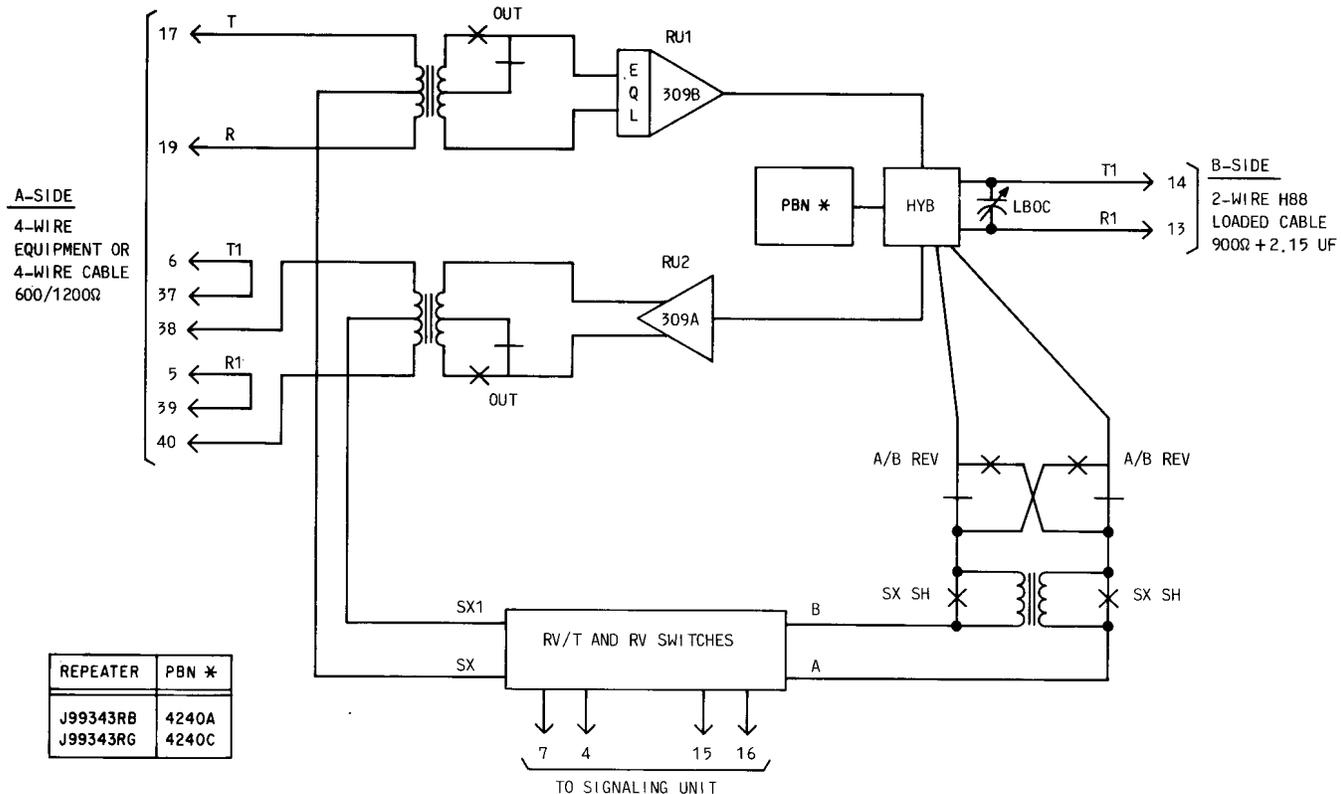

Fig. 1—Block Diagram of the 4-2 Intermediate/Terminal Repeater (L), J99343RB(MD), RG
2.01 The J99343RB, RC, and RG (terminal/intermediate) and the J99343RD, RE, and RH (terminal) repeaters utilize 309-type amplifier units for gain, or gain and equalization treatment. Block diagrams of the J99343RB/RG, RC, RD/RH, and RE repeaters are shown in Fig. 1, 2, 3, and 4, respectively.
4240-type precision balancing networks (PBNs). The PBNs required for each of the repeaters in this section are shown in Fig. 1 through 4. Prescription settings for the PBNs are given in Section 332-912-222.